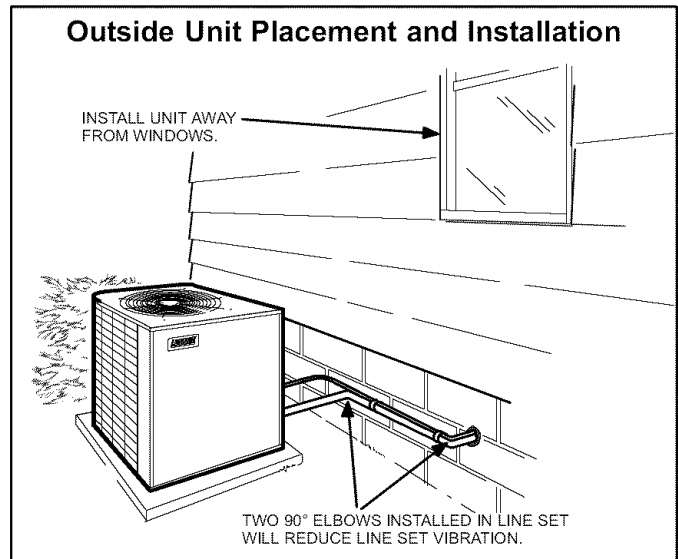
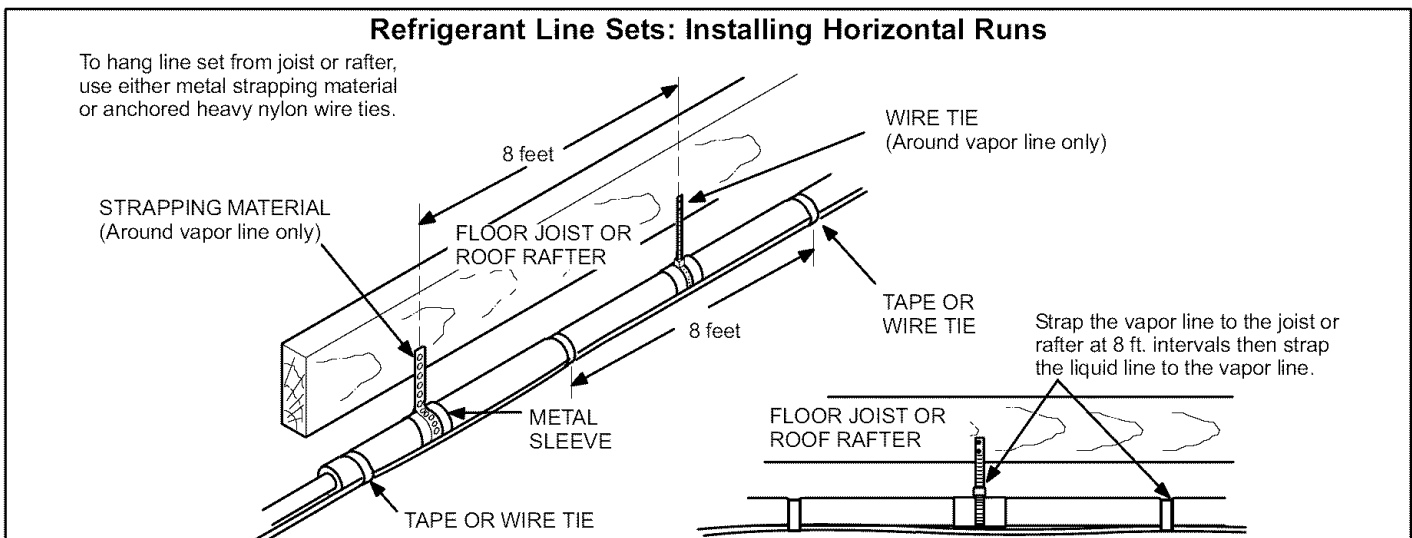
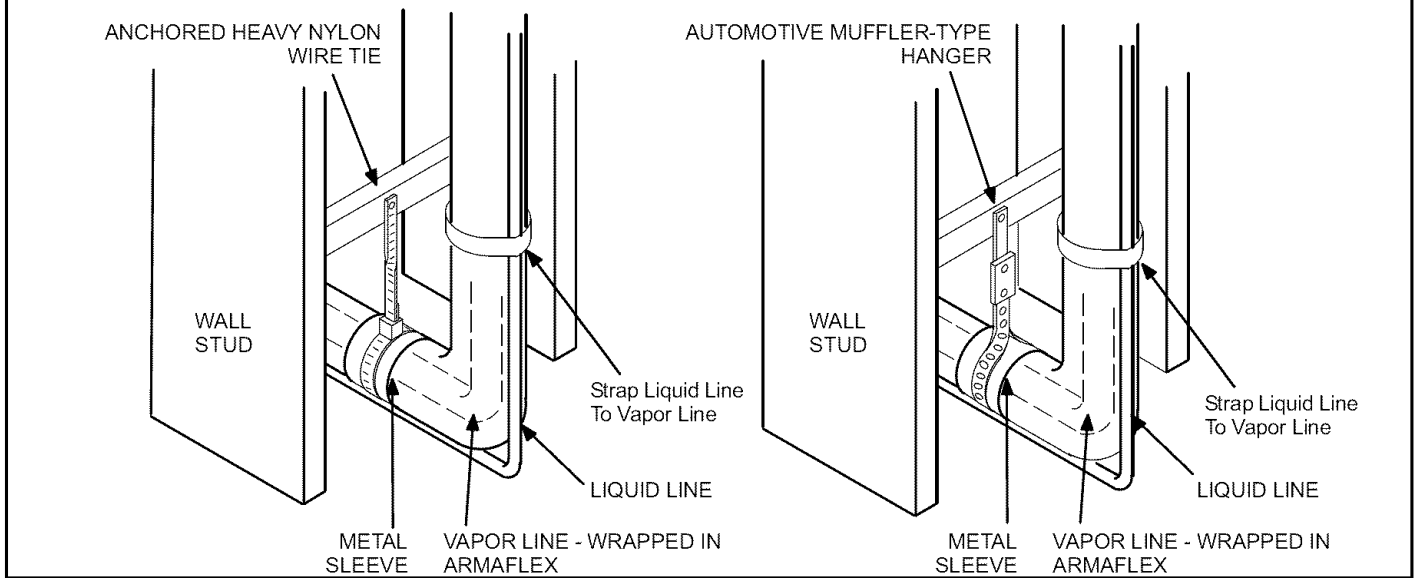
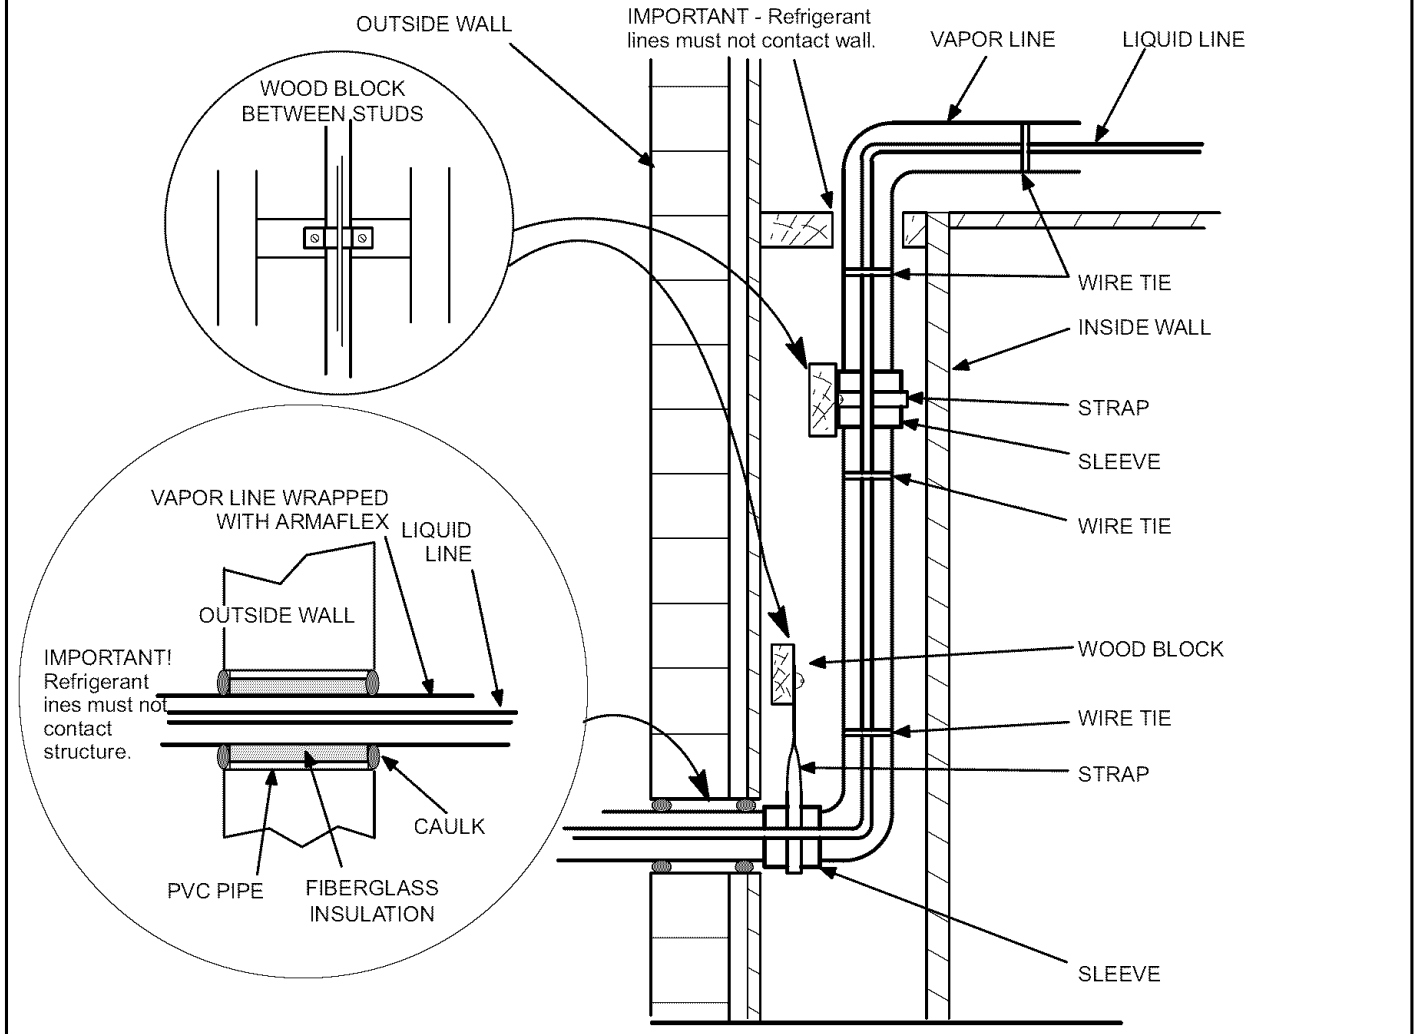

Figure 8
Figure 9
Figure 10
Figure 11
- 2. Line Set Isolation** - The following illustrations demonstrate procedures which ensure proper refrigerant line set isolation. Figure 8 shows how to place the outdoor unit and line set. Figure 9 shows how to install line sets on horizontal runs. Figure 10 shows how to make a transition from horizontal to vertical. Figure 11 shows how to install line sets on vertical runs.